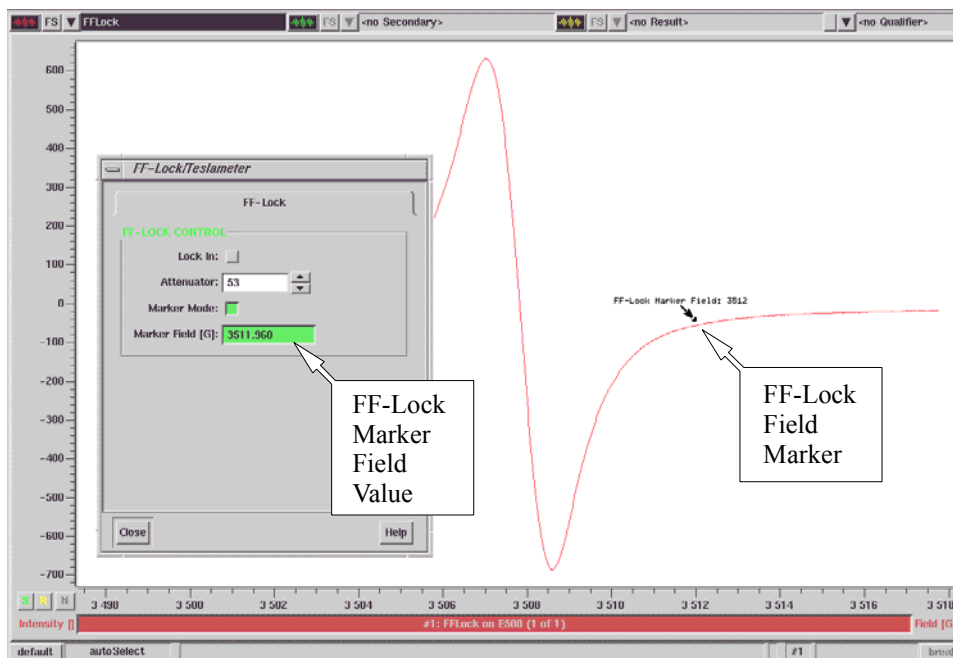

Figure 12-21 The FF-Lock Marker.
3. **Sweep the field.** Click the Run button. After the field sweep finishes the FF-Lock Field Marker will move to the field for resonance of the $g=2$ standard in the FF-Lock probe. A more accurate field value can be found in the FF-Lock/Teslameter dialog box. (See Figure 12-21.)